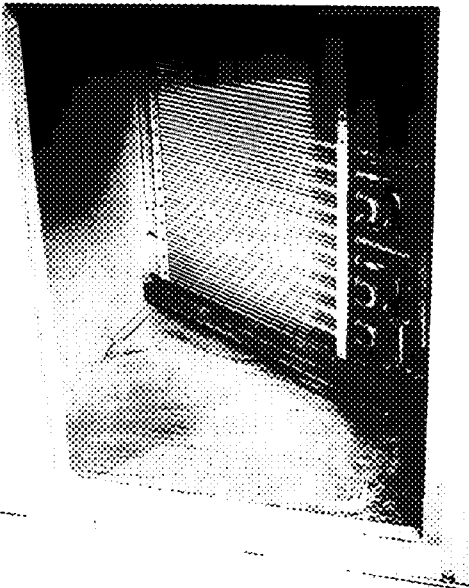

Fig. 17 — Lance Location for Vertical Duct Opening Cover
3. Locate lances in basepan insulation that are placed over the perimeter of the vertical duct opening cover (Fig. 17).